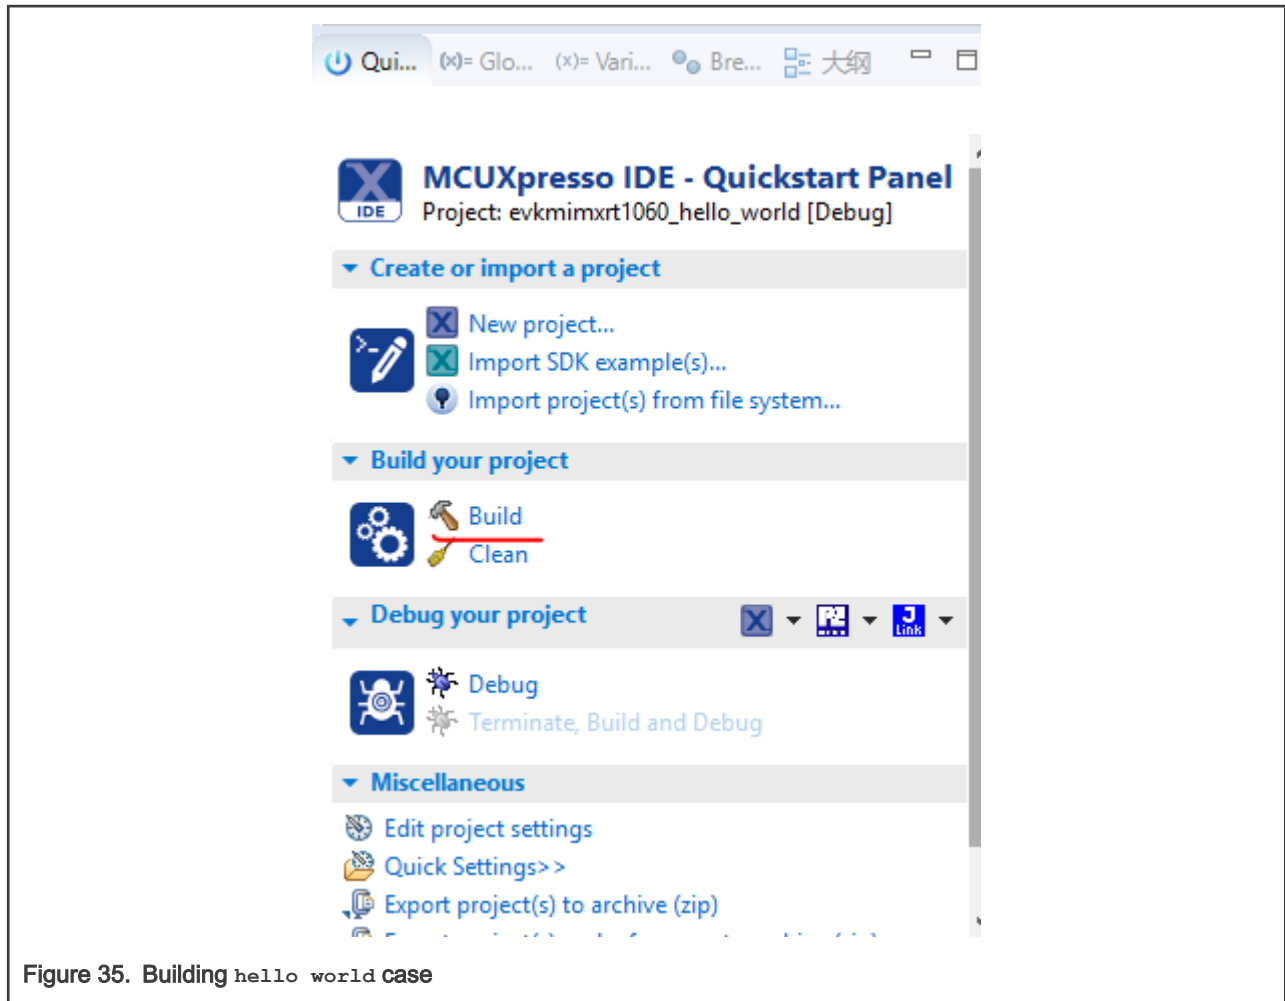

Figure 35. Building hello world case
- On the **Quickstart** panel, click **build evkmimxrt1060_demo_apps_hello_world [Debug]** , as shown in Figure 35.